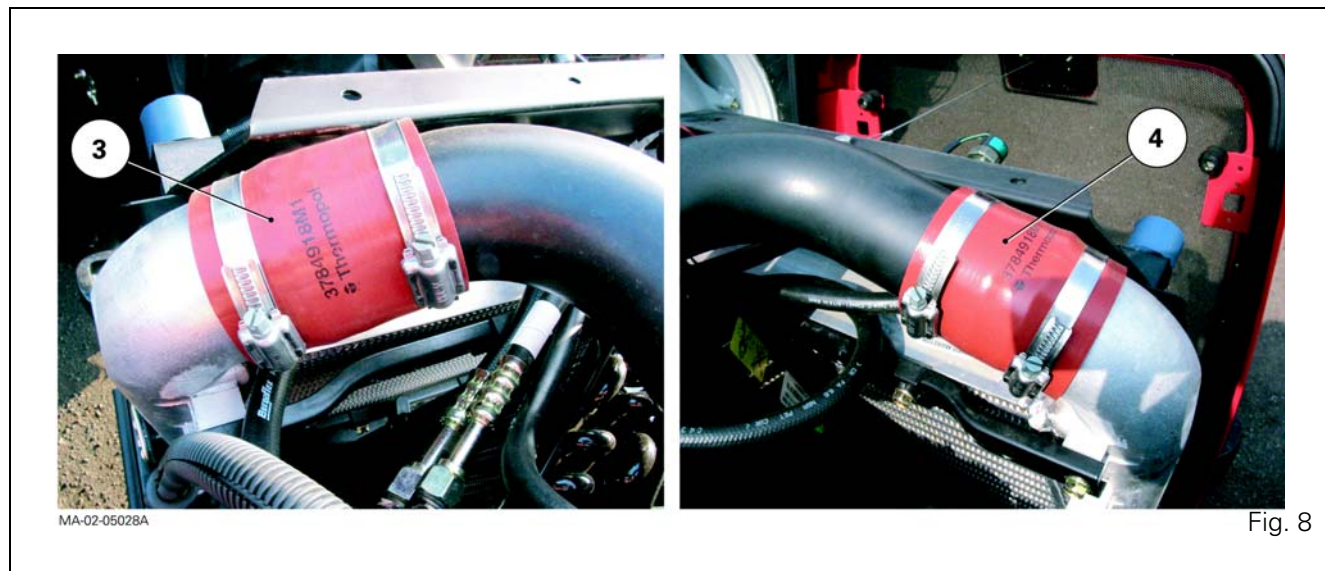

Fig. 8
- 19.** Disconnect the air sleeves (3) (4) on the air cooler located inside the grille (Fig. 8).